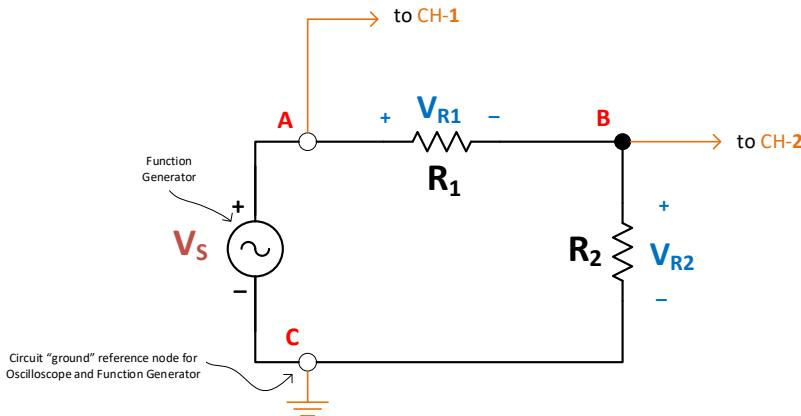

Figure 2.0: Simple AC circuit for *nodal* voltage measurements
- (b) For the simple AC circuit shown in **Figure 2.0**, the resistor values chosen for $R_1 = 3 \text{ k}\Omega$ and $R_2 = 2 \text{ k}\Omega$. The input AC voltage source, V_s is a sinusoidal signal with peak voltage amplitude, $V_p = 5\text{V}$ and frequency, $f = 1000\text{Hz}$. That is, $V_s(t) = 5 \sin(2\pi 1000t + 0)$ volts.
Table 2.0: Theoretical voltage values of Figure 2.0 circuit
(e) Use **MultiSIM** to construct and simulate the circuit in **Figure 2.0**, with resistors $R_1 = 3\text{k}\Omega$ and $R_2 = 2\text{k}\Omega$. Ensure that *node C* of the circuit is used as the *common ground* for all equipment.
(Note: Unlike the DMM multimeter, the voltage \mathbf{V}_{R1} across resistor R_1 cannot be measured directly because the outer conductor of the oscilloscope input channel (and cable) is always connected internally to “ground”, which in turn gets referenced to the “common ground” of a circuit, like the *node C*. If you attempt to directly measure the differential voltage across R_1 with the oscilloscope, then *node B* will get shorted to “ground”, thereby invalidating the circuit’s operation. Therefore, in such situations, you **must use** node voltages (\mathbf{V}_A and \mathbf{V}_B) to determine the voltage across R_1 . For the circuit in **Figure 2.0**, you should verify that $\mathbf{V}_{R1} = \mathbf{V}_A - \mathbf{V}_B$ and $\mathbf{V}_{R2} = \mathbf{V}_B - 0$)
Table 3.1: MultiSIM measured values of Figure 2.0 circuit